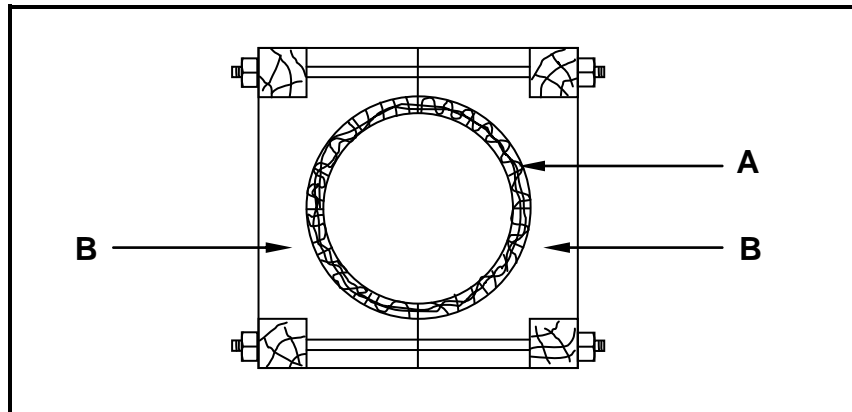

FIGURE 2.7
2.7 FIGURE 2.7 below shows a type of formwork used in construction.
- 2.7.1 Identify the formwork in FIGURE 2.7. (1)